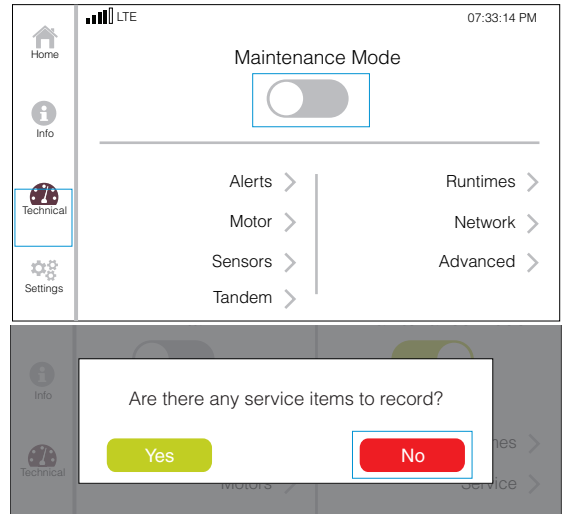

FIGURE 61. DISABLE MAINTENANCE MODE
- 11. On the Technical screen, press and disable **MAINTENANCE MODE**. Press **NO** on the pop-up dialogue box (FIGURE 61).